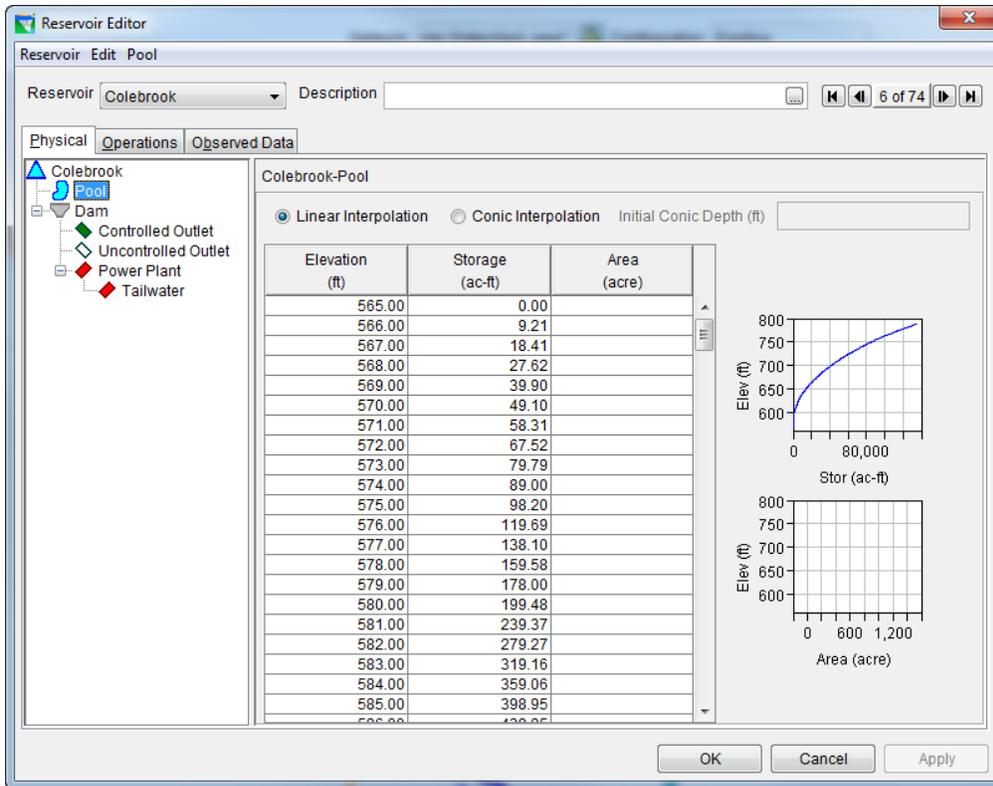

Figure 3: Reservoir Editor: Physical Tab -- Pool
The physical characteristics of the reservoir are separated between the Pool and the Dam in the HEC-ResSim model. The elevation-storage-area defines the pool as shown in Figure 3. The dam consists of three types of outlets: (1) controlled outlet, and (2) uncontrolled outlet, and (3) power plant as shown in Figure 4. All physical and operations data and are from Adamec 2009 and the US Army Corps New England District, either from a previously created ResSim model or the Reservoir Regulation Team website18.